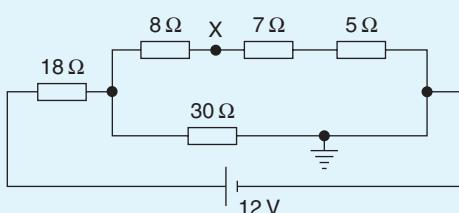

Figure 5.38
2. For the circuit shown in Fig. 5.38, calculate (a) the voltage drop across the $7\ \Omega$ resistor, (b) the current through the $30\ \Omega$ resistor, (c) the power developed in the $8\ \Omega$ resistor, (d) the voltage at point X w.r.t. earth, and (e) the absolute voltage at point X.